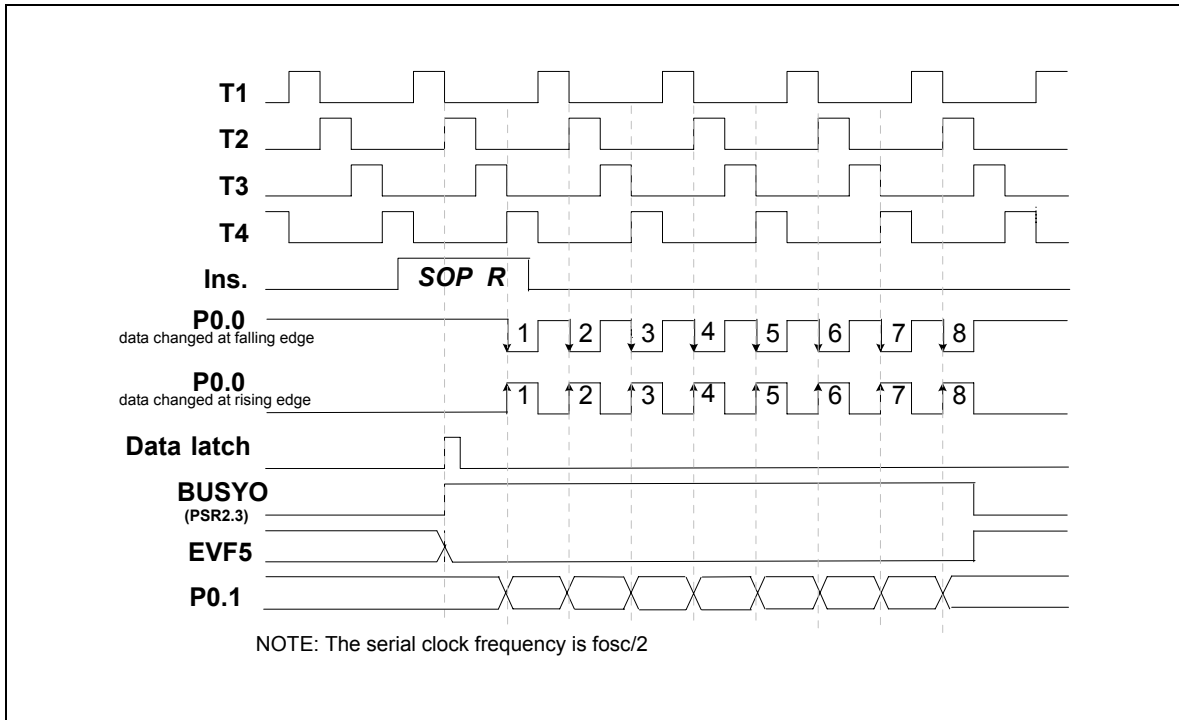

Figure 5-13 Timing of the Serial Output Function (SOP R)
- (2) When the **SOP R** instruction is executed, the data will be loaded to the serial output buffer (SOB) from ACC and the RAM, the low nibble data of SOB is from ACC register and the high nibble data is from RAM, and bit 3 of port status register 2(PSR2) will be set to "1" ($BUSY_O = 1$). Then the P0.0 pin will send out 8 clocks or accept 8 clocks from external device and the data in SOB will be sent out at the rising or falling edge of the P0.1 pin. After the 8 clocks have been sent, $BUSY_O$ will be reset to "0" and EVF.5 will be set to "1." At this time, if IEF.5 has been set ($IEF.5 = 1$), an interrupt is executed; if HEF.5 has been set ($HEF.5 = 1$), the hold state is terminated. Users can check the status of PSR2.3 ($BUSY_O$) to know whether the serial output process is completed or not. If a serial output process is not completed, but the SOP R instruction is executed again, the data will be lost. The timing is shown in Figure 5-13.